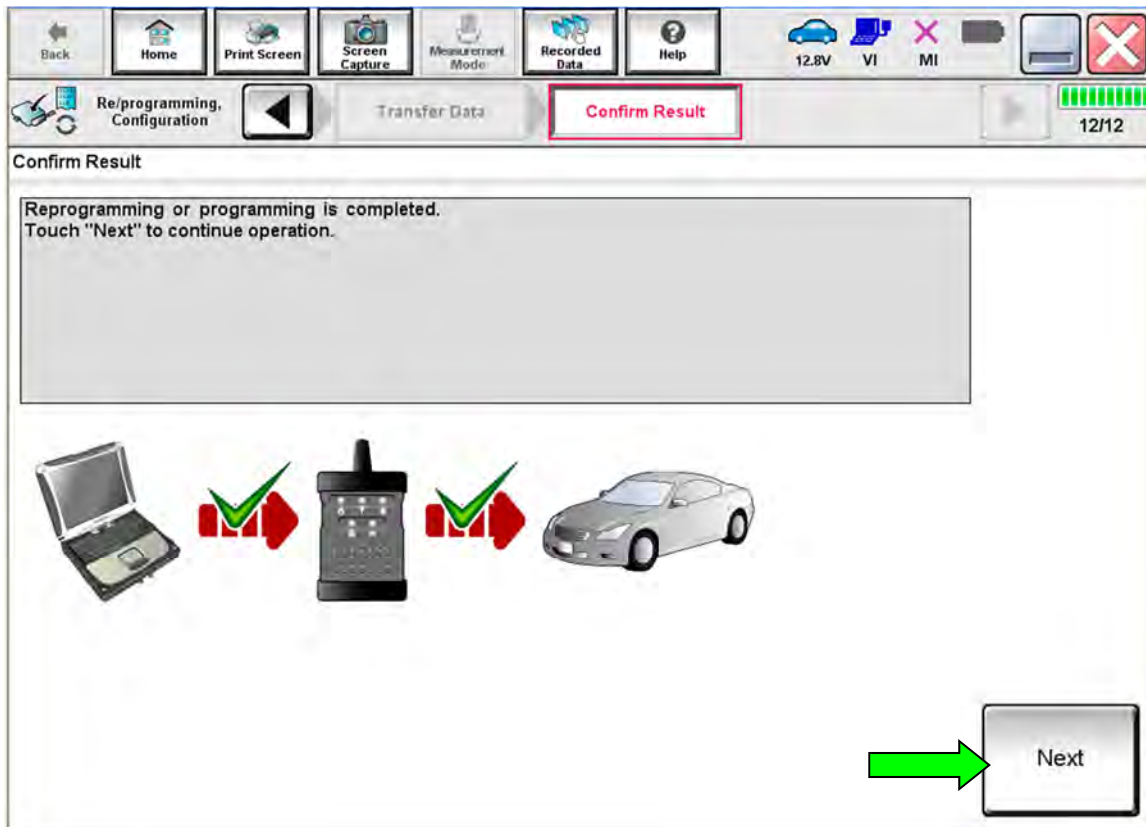

Figure 193
170. When the screen in Figure 193 displays, reprogramming is complete.
**NOTE:** If the screen in Figure 193 does not display (indicating that reprogramming did not complete), refer to the information on the next page.